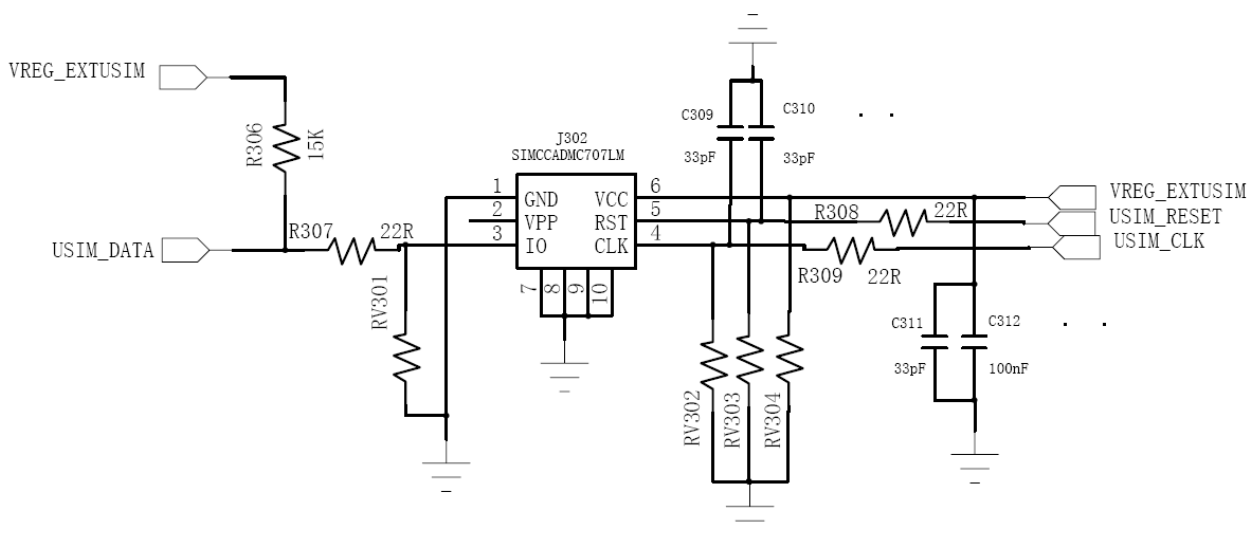

Figure 2-8 The reference circuit of USIM interface
The reference circuit of USIM interface is shown in Figure 2-8 below.
- 2) To avoid the instantaneous voltage overflowing, the resistor with reference value $22\ \Omega$ can be used for the DATA, CLK and RST line. Just like the resistors R307, R308 and R309 in Figure 2-8.
- 3) To avoid the static electricity in USIM socket, it is recommended to use the ESD protection device for the DATA, CLK and VCC line. Just like the varistors RV301, RV302, RV303 and RV304 in figure 2-8 which should be close to the USIM socket as possible.
- 4) To get more flat USIM power supply, it is recommended to use the filter capacitors. Just like C311 and C312 in Figure 2-8 with reference value $33pF$ and $100nF$.